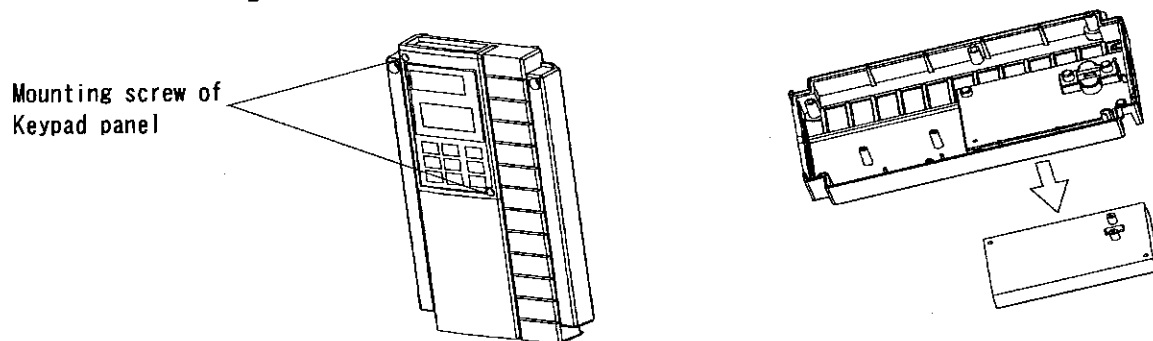

Fig.1-3-2 Removing the keypad panel
(2) Removing the keypad panel
After removing the surface cover as explained in (1), loosen the mounting screws of the keypad panel and remove as shown in Figure 1-3-2.